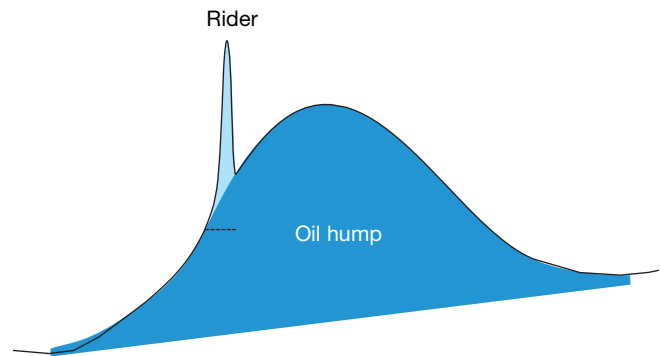

Figure 5. Integration of an oil-hump with a rider peak in Chromeleon CDS.
- If the chromatogram contains “oil-humps” (accumulations of isomers that cannot be separated due to their chemical similarity), these should be treated as one peak and integrated from start to end (Figure 5, dark blue).
- Any “rider” peaks should be integrated separately (Figure 5, pale blue). The integration for these should not start at the baseline but rather from the point at which the peak protrudes from the “oil-hump.”